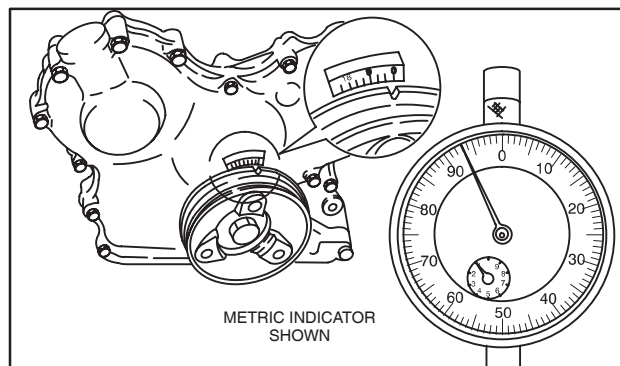

Fig. 5 – Checking Timing
- Slowly rotate crankshaft clockwise until timing mark on pulley aligns with reference point on gear case cover (TDC), Fig. 5. Note dial indicator reading.